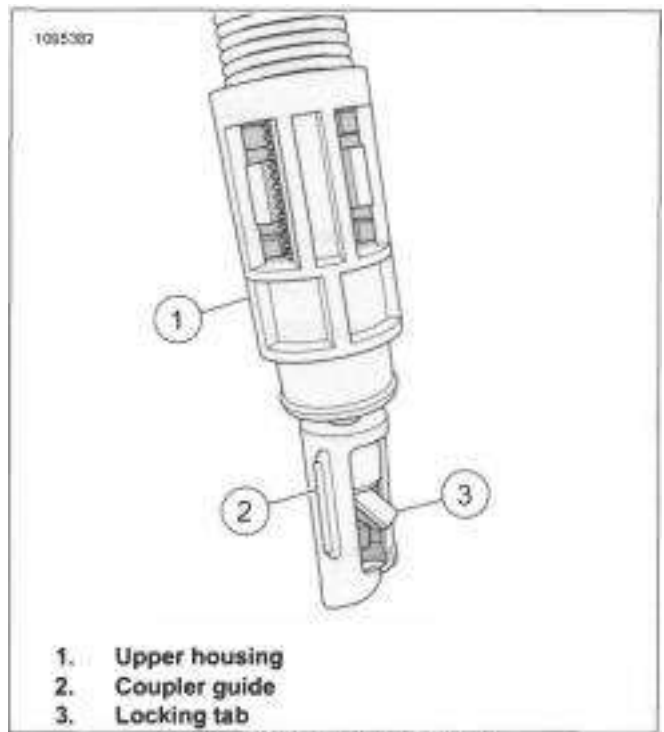

Figure 3-104. Upper Housing
1. See Figure 3-104. Align coupler guide (2) with the guide in housing.